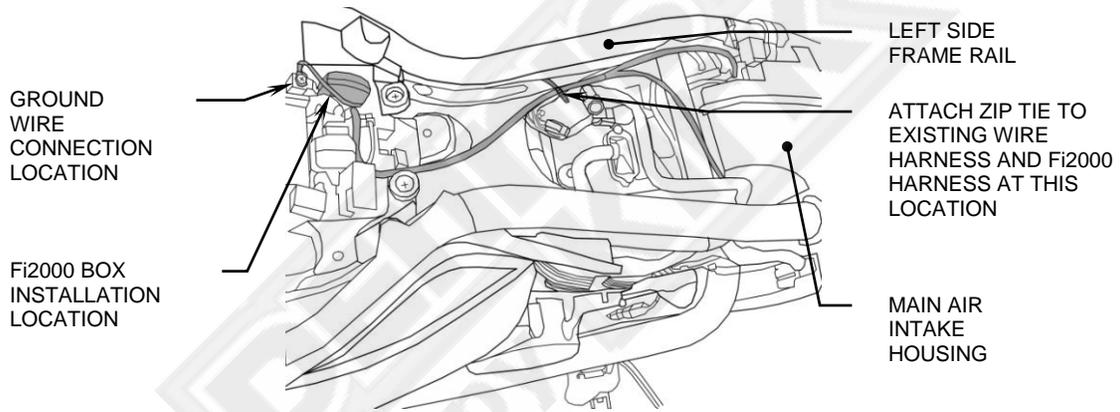

FIGURE 3: Fi2000 ECU & HARNESS INSTALLATION LOCATION AND ROUTING
4. Re-install the air filter housings, routing the left side harness up and over the air intake boot, then tighten the air boot clamps. Ziptie the Fi2000 harness to the main bike harness and Velcro the Fi2000 control module as shown in Figure 3.